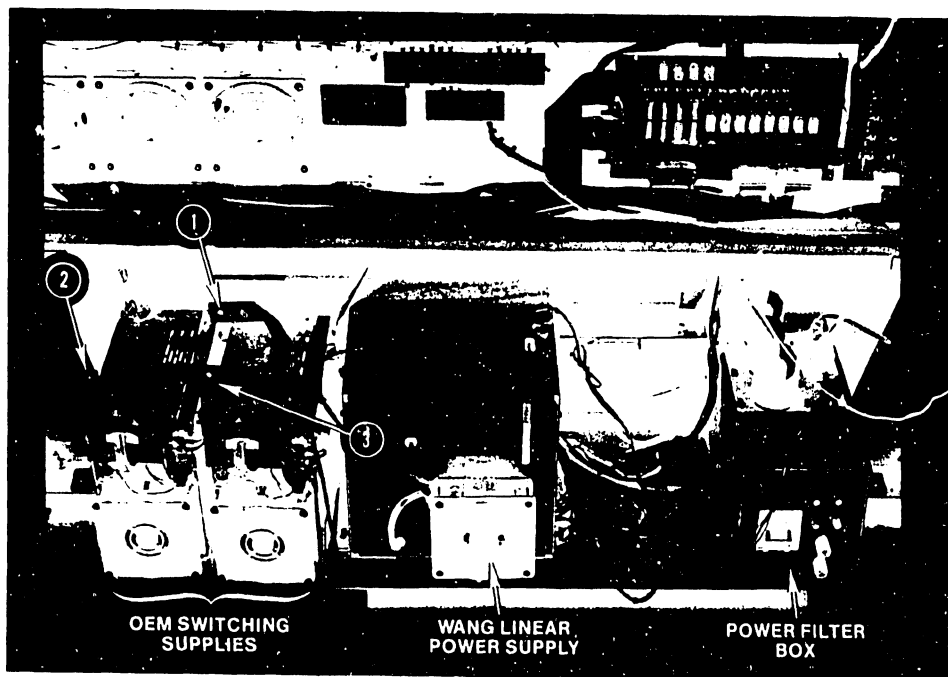

FIGURE 7-13 WITHDRAWING THE POWER SUPPLY TRAY
Before the power supplies can be removed, the top and front covers of the VS-100 Mainframe must be removed (refer to Paragraphs 7.2 and 7.3). On EARLY versions of the VS-100, the power supply tray on which the power supplies are mounted must be pulled from beneath the Motherboards. Remove the tray as follows: (See Figure 7-13, callouts 1, 2, and 3.)
1. Remove the Phillips-head screw securing the linear-supply ground strap to the switching-supply ground bar. (See Figure 7-13.)